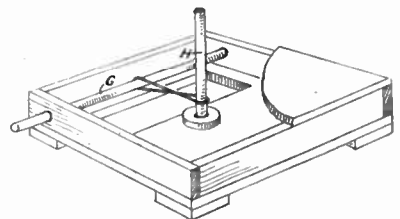

Fig. 2—How the model works
as seen in the sectional diagram Fig. 2.
In the two sides (C) holes must be cut as shown, to take the $\frac{1}{2}$ in. diameter cross spindle. In Fig. 2 is shown how this spindle is connected up with the belt which runs around the upright spindle.